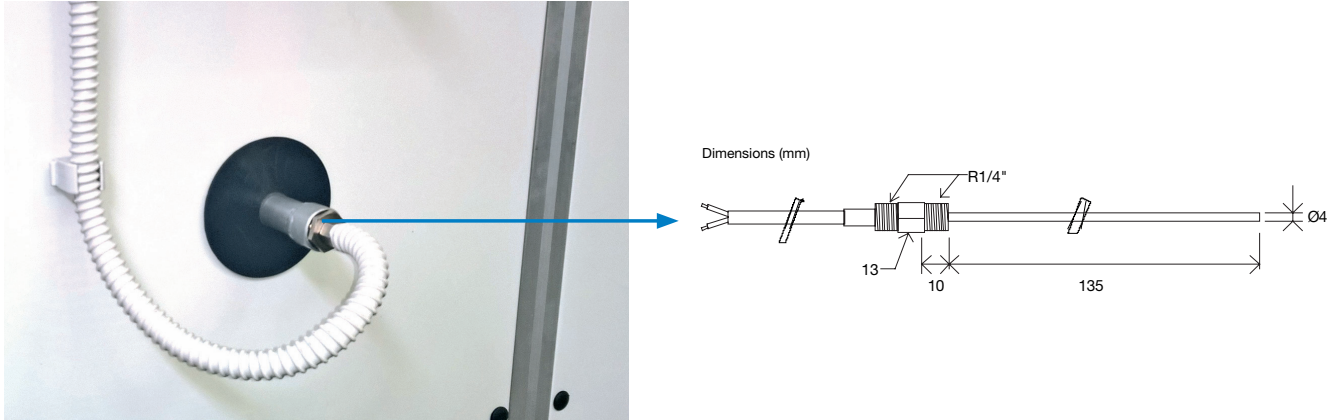

Figure 19
- The coil is prepared for mounting of a medium flow thermostat in a connection tube. It is to be mounted inside the connection tube in the heating coil (Figure 19).